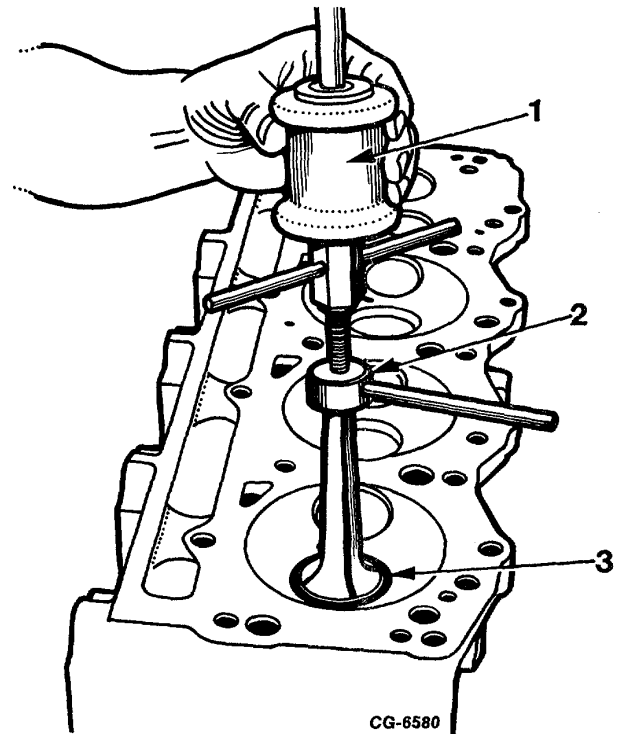

Fig. 117 Removing Valve Seat Insert
1. Using remover tool SE-1951 (Figure 117) to remove intake valve inserts. Position remover collet to insert and turn coned screw out to expand collet jaws, providing a firm grip under insert ring. Use a slide hammer to remove insert.